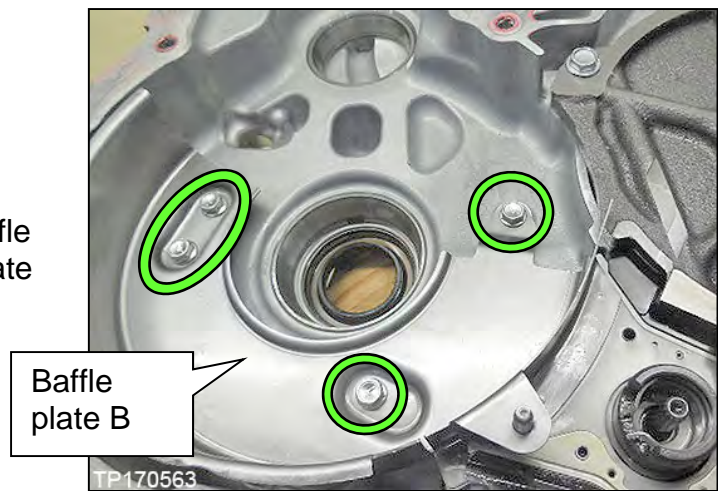

Figure 48
26. Remove the four (4) bolts from baffle plate B, and then remove baffle plate B (Figure 48).